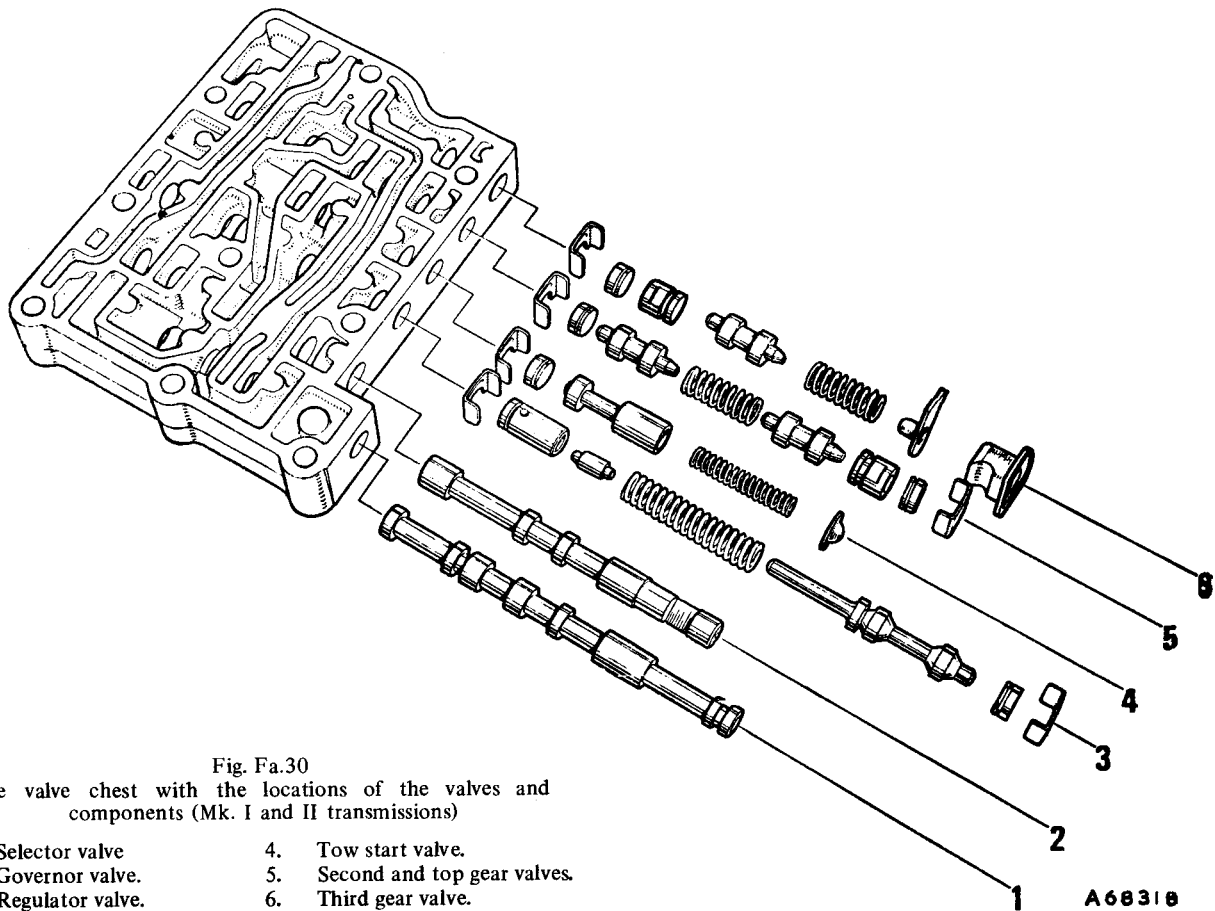
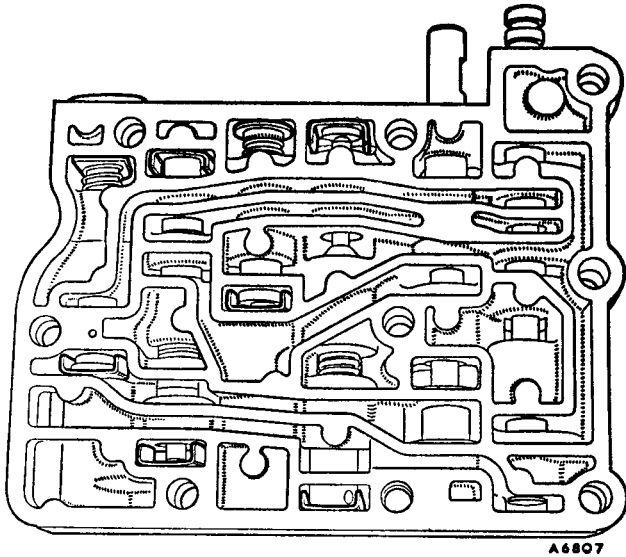

Fig. Fa.30
Fig. Fa.31
7. Reassemble each valve assembly in the reverse order of dismantling (see Fig. Fa.30). Check that the 'C' clips and plugs are correctly located in the valve chest (see Fig. Fa.31).